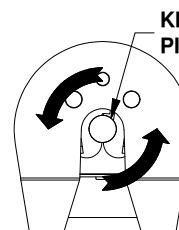
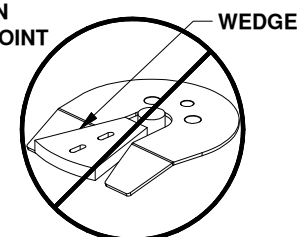

Figure G1: Top view of coupler.
Figure G2: Coupler with locking wedge.
- WARNING:** Do not use the slider 5th wheel hitch with any device that changes the location of the king pin pivot point. The king pin on your trailer must rotate in the jaws of the slider coupler, see Figure G1. Preventing the king pin from rotating within the jaws of the slider coupler with a wedge, see Figure G2, or any other device, such as a Reese Sidewinder® or Reese Revolution®, could result in property damage, serious injury, or death.